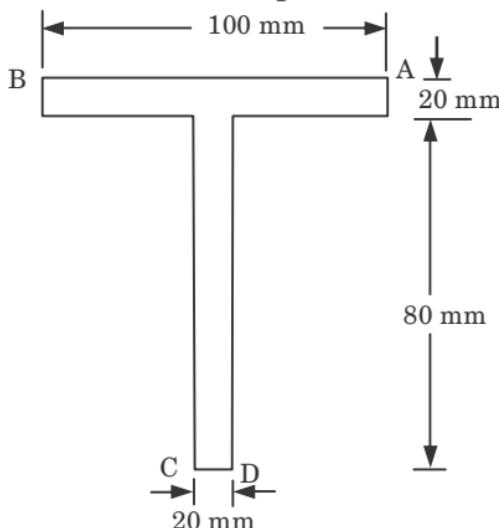

Fig. 6.
- b. A cast iron beam of T-section as shown in Fig. 6. The beam is simply supported on a span of 8 m, the beam carries a UDL of 1.5 kN/m length on the entire span. Determine the maximum tensile and compressive stresses.